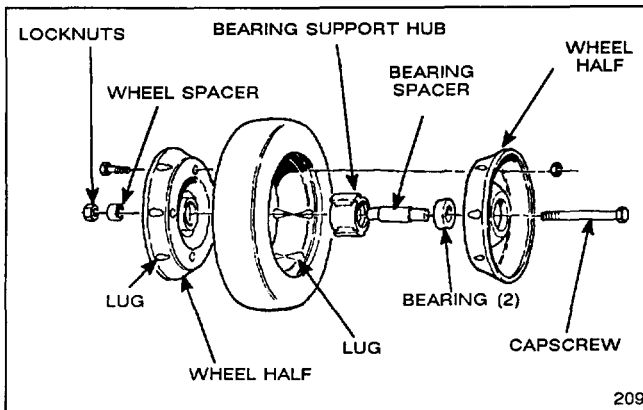

Figure 20
1. Stop engine and remove capscrew, wheel spacer, and locknut mounting wheel to pivot arm (Fig. 20).
2. Separate wheel halves from tire by removing (4) flange capscrews and locknuts (Fig. 20).
1. Position tire onto (1) wheel half aligning lugs on each (Fig. 20).
4. Using (2) 1/4-20 x 1.50" lg. fully threaded screws or bolts and non-locking nuts, loosely secure wheel halves together. Mount screws or bolts in opposing holes.
6. Install (2) flange capscrews and locknuts, previously removed, in remaining holes in wheel halves and tighten. Remove (2) long screws or bolts and replace with (2) flange capscrews and locknuts.